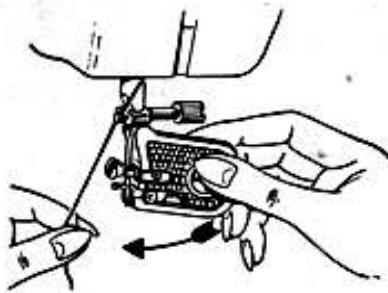

Fig. 5a
- Place threader as shown in Fig. 5a, so that its hook passes through needle eye.